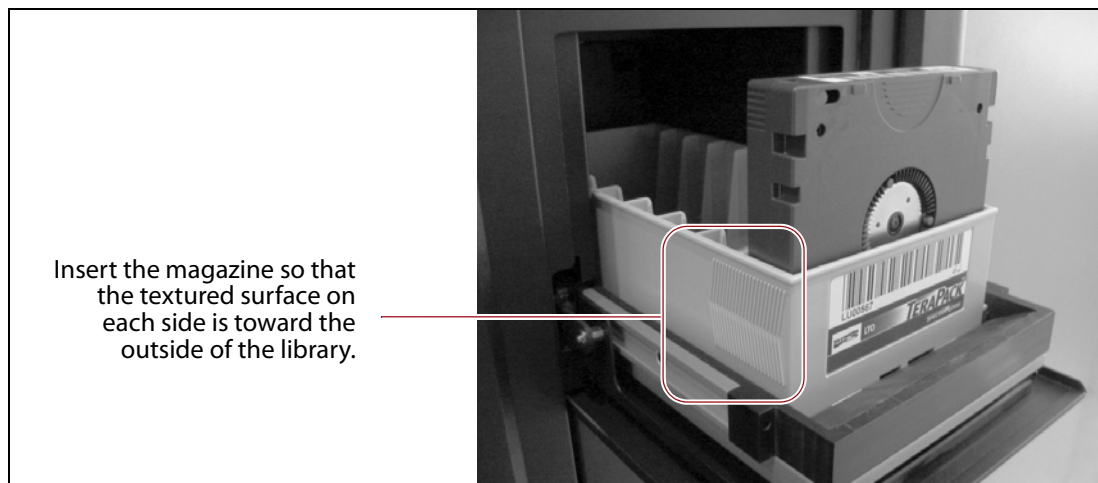

Figure 149 Insert a magazine into the TAP, making sure that it is correctly oriented.
- a. Insert a magazine into the tray on the open TAP, making sure that it is oriented with the textured surface on each side toward the outside of the library, as shown in Figure 149.